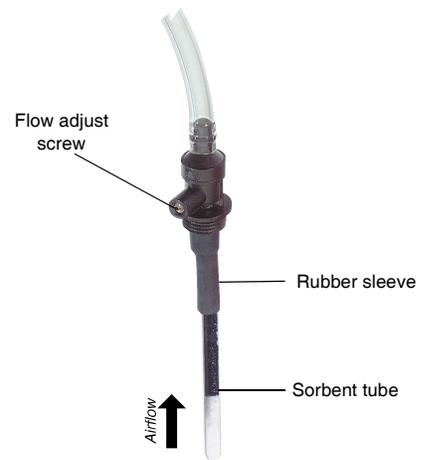

Figure 3. Single Adjustable Tube Holder with Sample Tube
### Using Single Adjustable Tube Holder (Figure 3)
4. Insert an opened sorbent tube into the rubber sleeve (Figure 3) of the low flow tube holder with the arrow on the tube pointing toward the tube holder.
6. Using flexible tubing, connect the exposed end of the sorbent tube to the calibrator outlet (suction port). Loosen the brass flow adjust screw (Figure 3) on the tube holder. Adjust the flow rate by turning the flow adjust screw (**counterclockwise to increase, clockwise to decrease**) until the calibrator indicates the desired flow. Take a minimum of three readings and record the average flow rate, as per OSHA/NIOSH instructions.